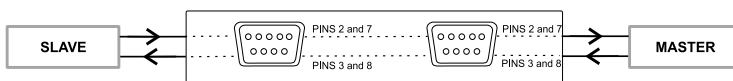

Figure 6: Bi-directional Signals II
- When a Master device changes position with a Slave device, the pins change, as Figure 6 illustrates: